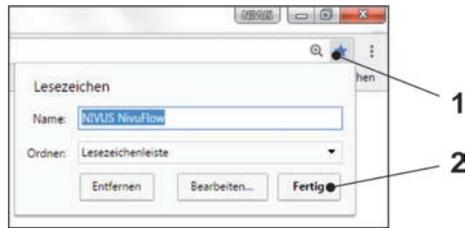

Fig. 26-22 Setting up favourite
7. To set up a favourite in the browser (for direct access), tap the star for "Favourites" (Fig. 26-22 Pos. 1) (Google Chrome is used as an example) and confirm with "Done" (Fig. 26-22 Pos. 2).